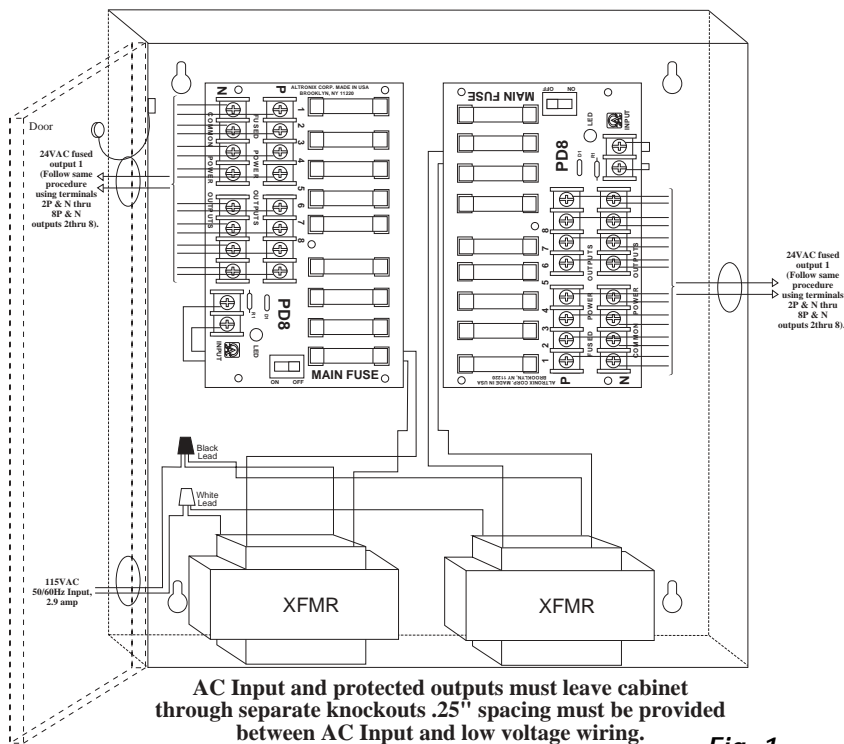

Fig. 1
- Output fuses are rated at 3.5 amp / 250VAC (Fig.1).
- Main fuses are rated at 5 amp / 250VAC (Fig.1).
2. Slide switch SW1 (Fig. 1) to OFF position.
3. Connect the AC (115VAC 50/60 Hz) to the two black and white flying leads of the transformers (Fig. 1).
4. Connect devices to output terminals using the following procedure (Fig. 1).
5. Slide switch SW1 (Fig. 1) to ON position.